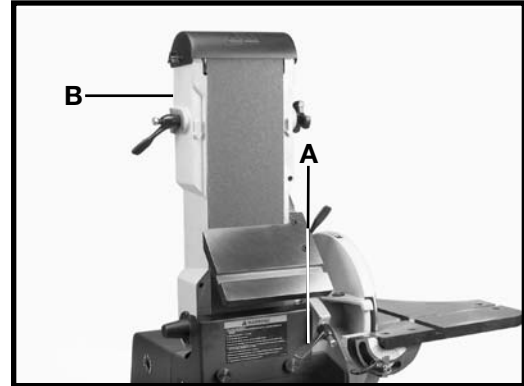

Fig. 13
2. Move the sanding arm (B) to the vertical position (Fig. 13) and tighten the lock handle (A).